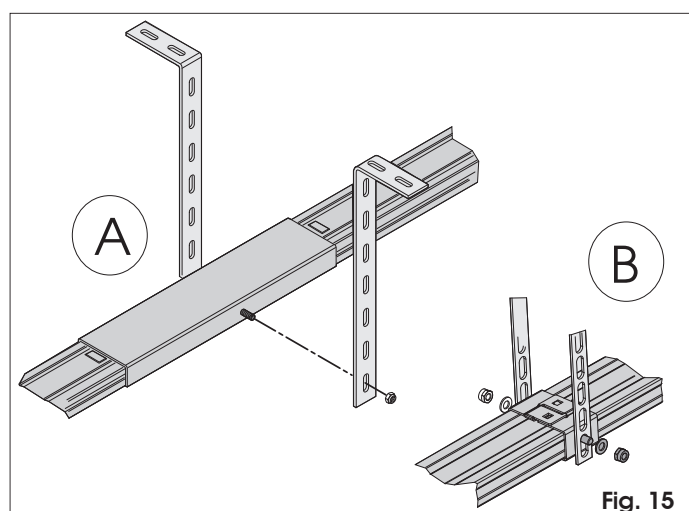

Fig. 15
- 13) If using a two-piece guide with central joint (Fig. 15 ref. A) or the central support for a single rail (Fig. 15 ref. B - optional), secure to the ceiling, using the brackets and proceed according to steps 9, 10 and 12 (Fig. 15).